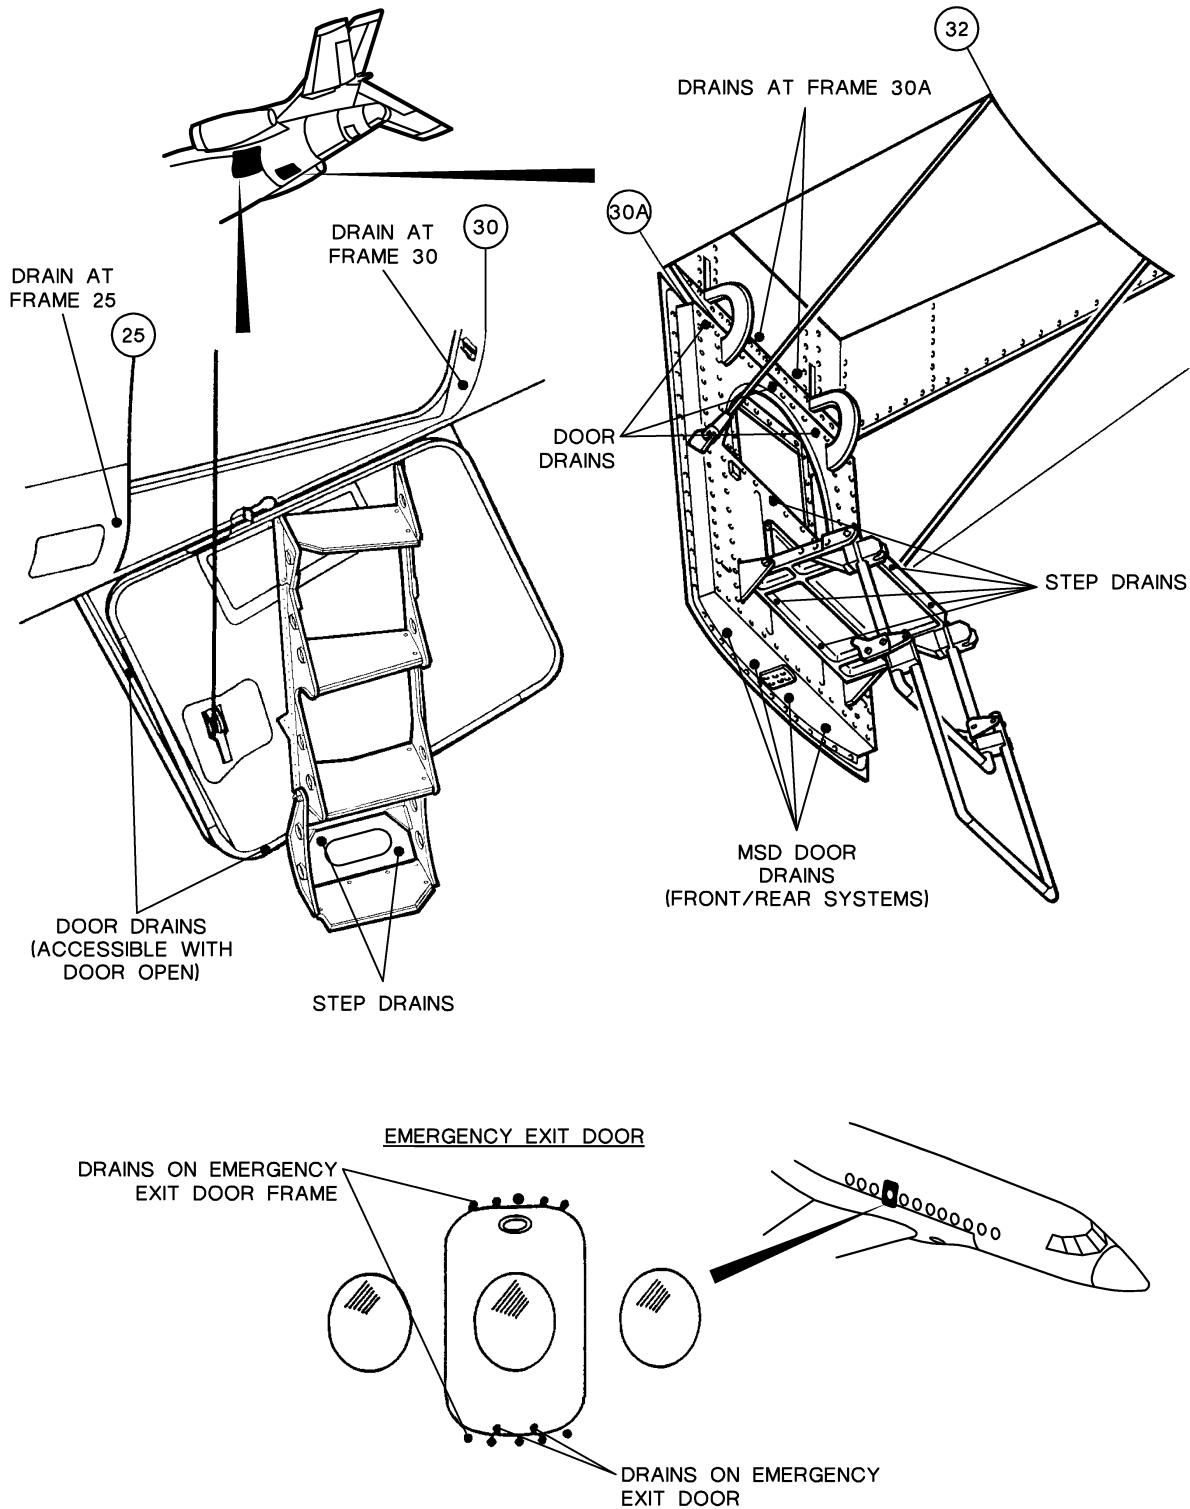

Figure 5: CONDENSATION AND STREAM WATER DRAINS - LOCATION (5/5)
Refer to **fig. 1**, **fig. 2**, **fig. 3** and **fig. 5**
(3) At the emergency exit door (**EMERG**) and frame (**fig. 5**), accessible when the door is removed.
(4) At the baggage compartment door (**BAG**) and the Mechanic's Servicing compartment Door (**MSD**) and their frames (**fig. 5**), accessible when the doors are open.